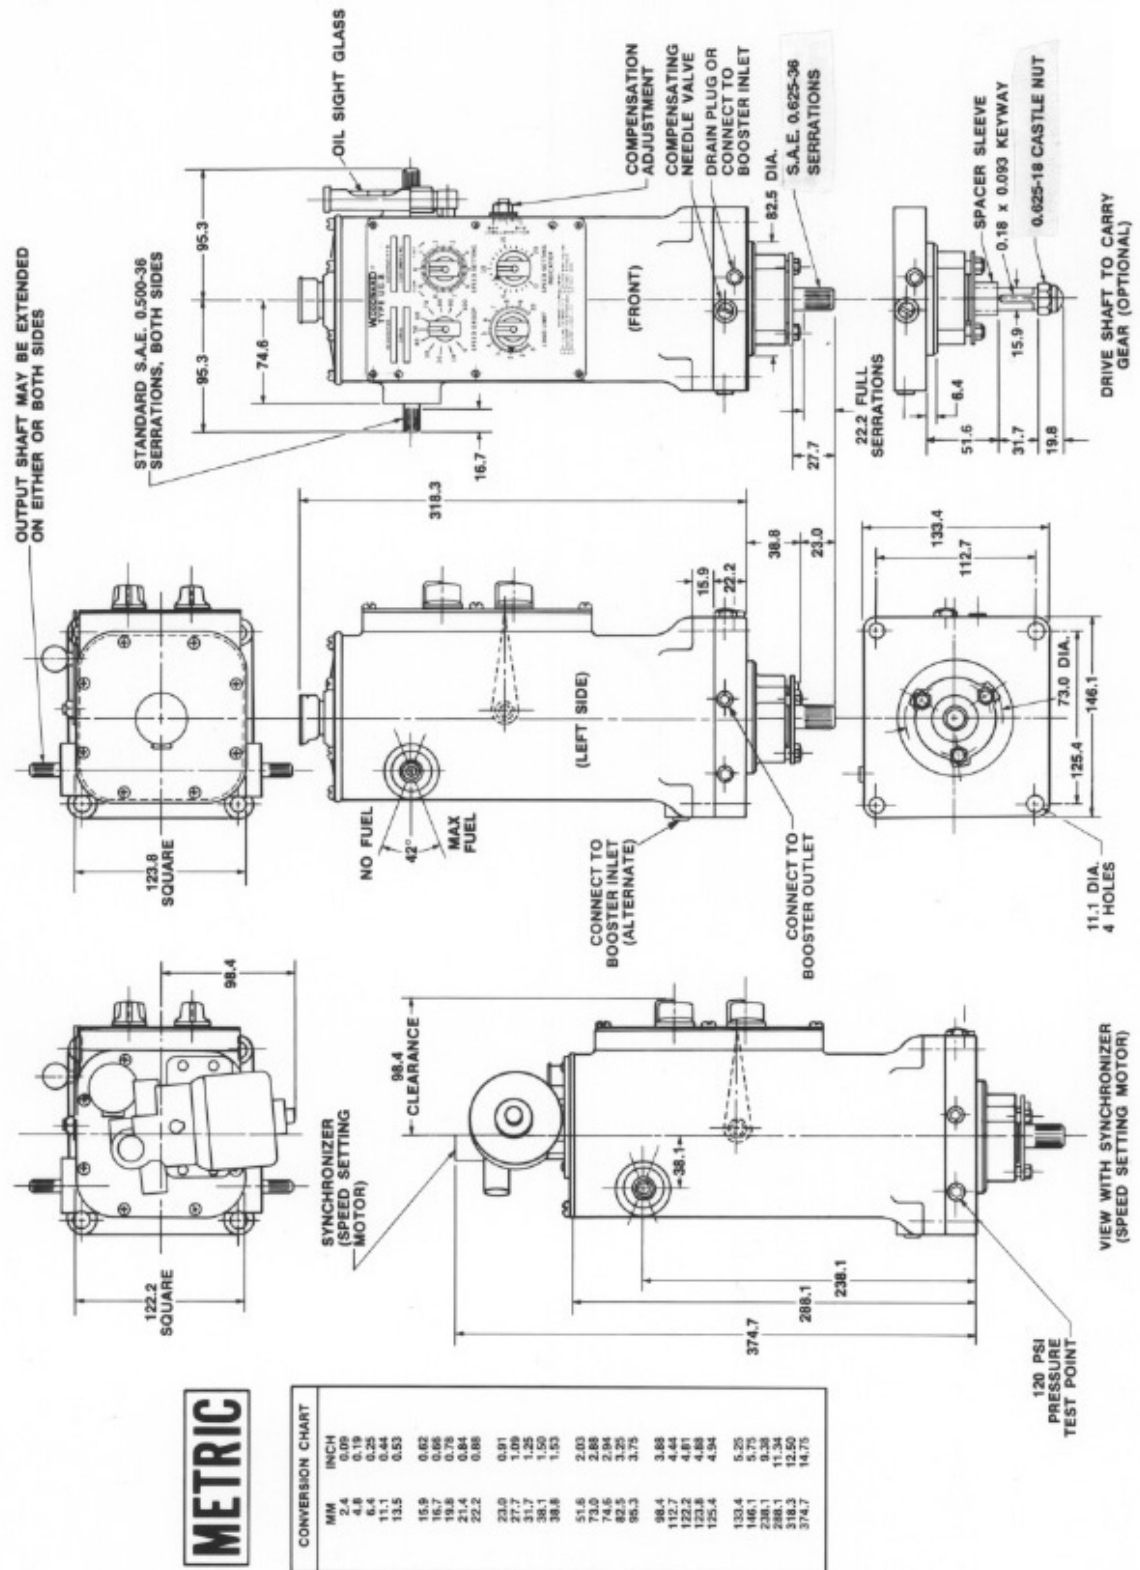

Figure 1-3. UG Dial Governor Outline Drawing
| Figure 1-3. UG Dial Governor Outline Drawing..... | 3 |
5. See the outline drawing (Figure 1-3) for mounting hole sizes and governor dimensions.
Be sure there is adequate space available around the governor to provide easy access for installing the control linkage, filling the governor with oil, and adjusting the speed and compensation system. See the outline drawing (Figure 1-3) for mounting hole sizes and governor dimensions.